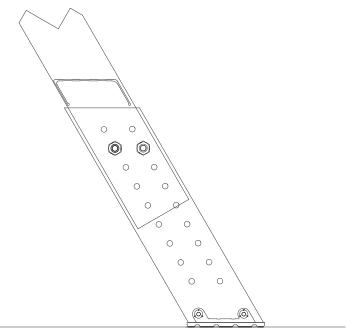

FIGURE 10
E. Slide aluminum foot over ladder rail as shown in Figure 10. Position so the rubber foot is in contact with the floor. Align with closest set of predrilled holes in rail. Attach using (2) 1/4" bolts and serrated nuts per side (included).